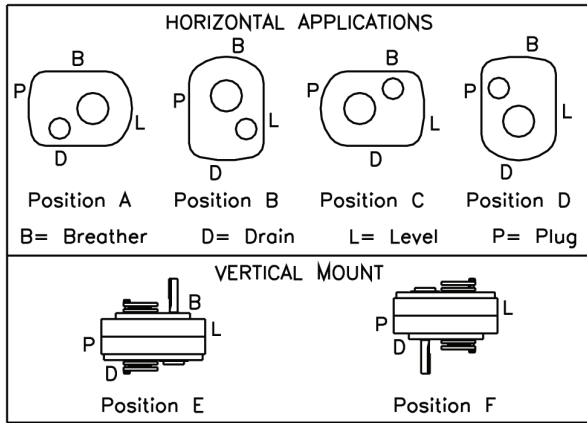

Figure 1 - Mounting Positions
2. Determine the running positions of the reducer (see Figure 1). Note that the reducer is supplied with six plugs; four around the sides for horizontal installations and one on each face for vertical installations. These plugs must be arranged relative to the running positions as follows:
Install the filter/ventilation plug in the hole provided in the upper face of the reducer housing. If space is restricted on the upper face, install the vent in the highest hole on the side of the reducer per Figure 1 using the optional vertical vent kit. Install a plug in the hole in the bottom face of the reducer. Do not use this hole for the magnetic drain plug. Install the magnetic drain plug in the lowest hole on the sides of the reducer. Of the remaining holes on the sides of the reducer, use the plug in the upper housing half for the minimum oil level plug.
Below 15 rpm output speed, oil level must be adjusted to reach the highest oil level plug. If reducer position is to vary from those shown in Figure 1, either more or less oil may be required. For assistance, contact Dodge Application Engineering at +1 864 284 5700.
The running position of the reducer in a horizontal application is not limited to the four positions shown in Figure 1. However, if running position is over 20 degrees in position B and D or over 5 degrees in position A and C (either way from sketches), the oil level plug cannot be used safely to check the oil level unless during the checking, the torque-arm is disconnected and the reducer is swung to within 20 degrees for position B and D or to within 5 degrees for position A and C of the positions shown in Figure 1.
① Oil quantity is approximate. Service with lubricant until oil runs out of oil level hole.
② Refer to Figure 1 for mounting positions
③ US measurement conversions: 1 quart = 32 fluid ounces = 0.94646 liters
④ Conversion from quarts rounded values
⑤ Below 15 rpm output speed, oil level must be adjusted to reach the highest oil level plug. If reducer position is to vary from those shown in Figure 1, either more or less oil may be required. For assistance, consult Dodge Application Engineering at +1 864 284 5700.
⑥ Consult Dodge Application Engineering at +1 864 284 5700 for proper oil level for reducers equipped with backstops and which are mounted in either position C or position D